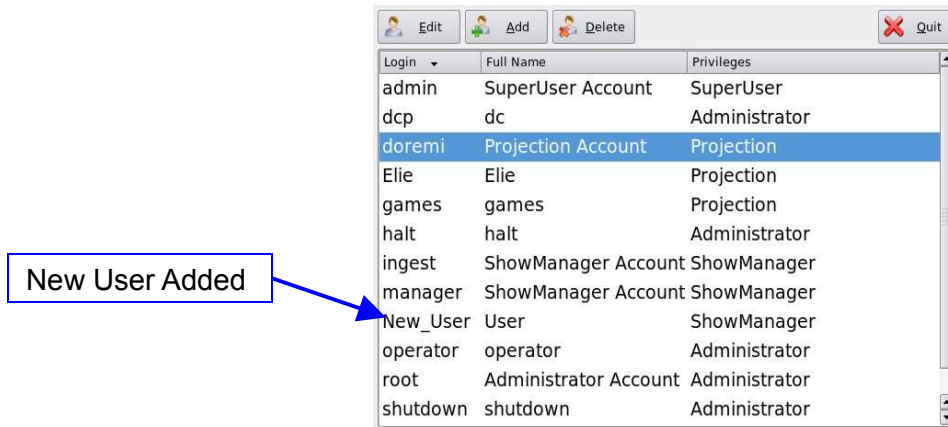

Figure 108: Account Manager Window - New User Added
- Click on the Save button to complete the new user process (Figure 108).